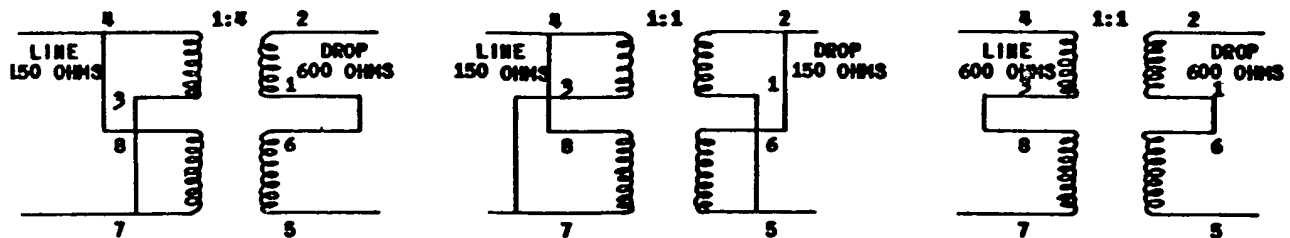

FIGURE 7
7.05 Repeating coil arrangements for 1:1 ratio and 1:4 ratio are shown in Figure 7.
9.05 Repeating coils at the sending and/or receiving end may be necessary on nonequalized circuits and Schedule C and D circuits where the customer equipment is unbalanced. Usually when repeating coils are required for this purpose, they are wired 1:1 impedance ratio (600-ohms to 600-ohms) as shown in Figure 7.